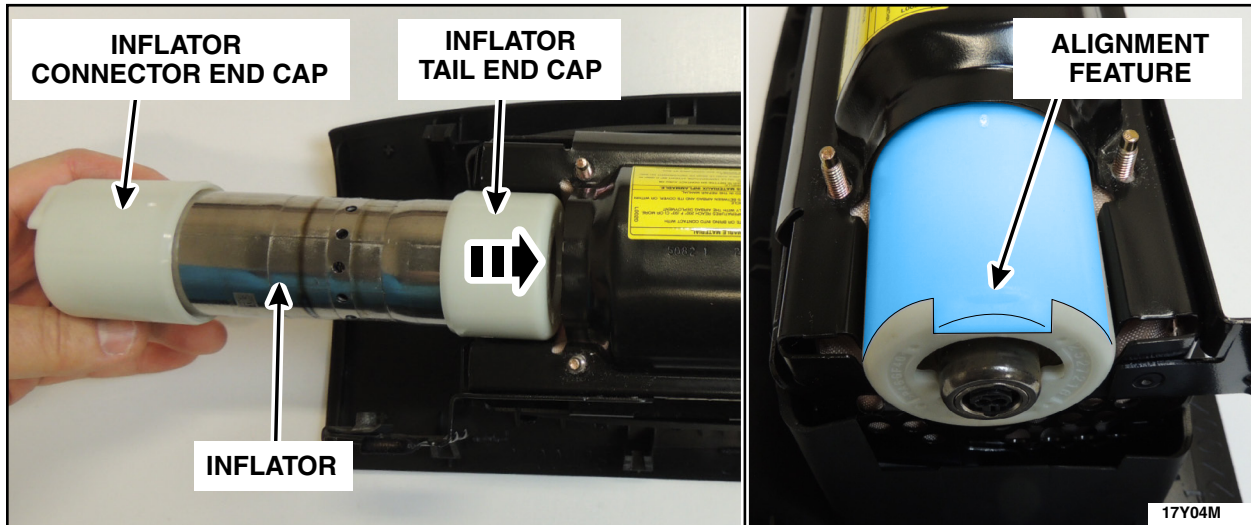

FIGURE 9
9. Install inflator into air bag assembly with connector end facing out, so that the alignment feature is aligned directly facing up. See Figure 9.